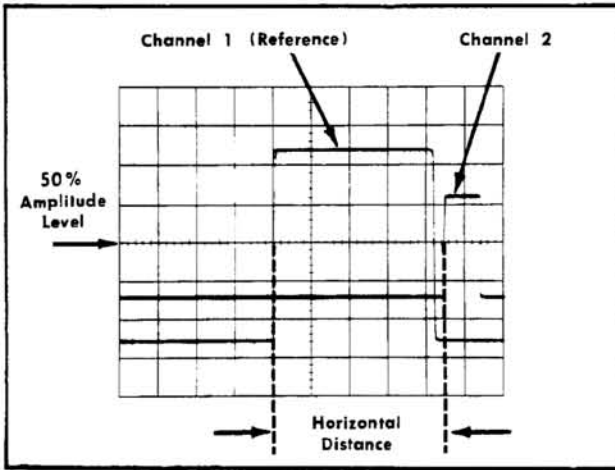

Fig. 2-14. Measuring time difference between two pulses.
11. Measure the horizontal distance between the Channel 1 waveform and the Channel 2 waveform (see Fig. 2-14).
Example. For example, assume that the TIME/DIV switch is set to 50 μSEC, the magnifier is on and the horizontal distance between waveforms is 4.5 divisions (see Fig. 2-14).